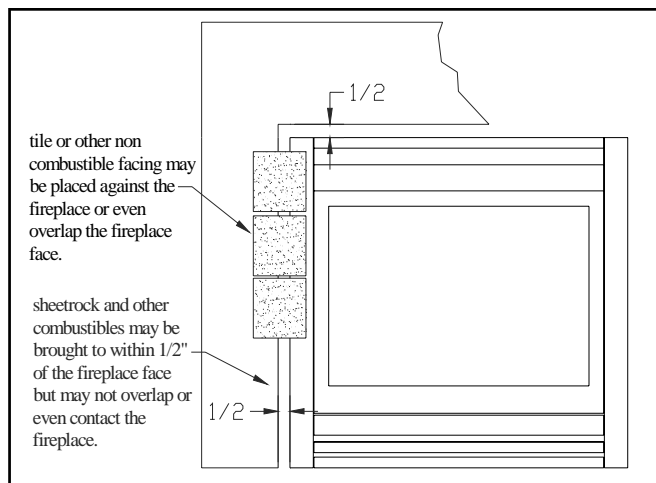

Fig. 8 – Facing Clearances
- 5) When sheetrock is applied around the fireplace a 1/2" gap must be maintained between the fireplace face and the sheetrock or any other combustible material. Non-combustibles such as brick, tile or stone may butt up to or even overlap the face of the fireplace. **NOTE: If overlapping the face of the fireplace make sure not to overlap into the glass frame area.** (see figure 8)